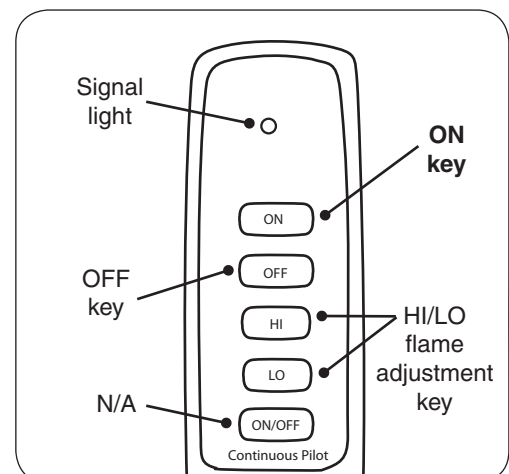

Fig. 31-3 Remote transmitter detail
3. Locate the remote transmitter and press the **ON** key (see Fig. 31-3). The ignition sequence will begin.